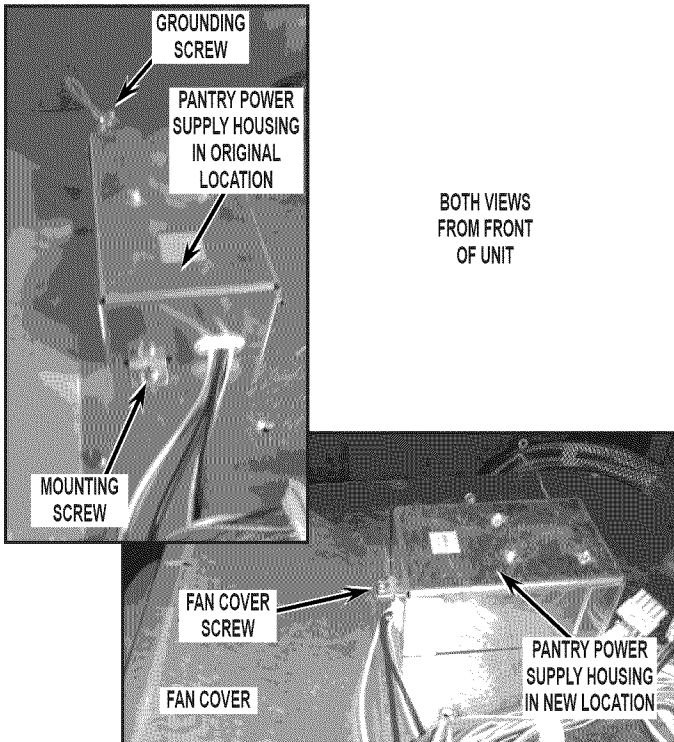

FIGURE 8
10. Disconnect the pantry power supply housing from the condenser cover by removing mounting screw and grounding screw. Rotate the pantry power supply housing 90 degrees, remove the fan cover screw shown and use to reattach pantry power supply housing in the position shown. See *Figure 8*.